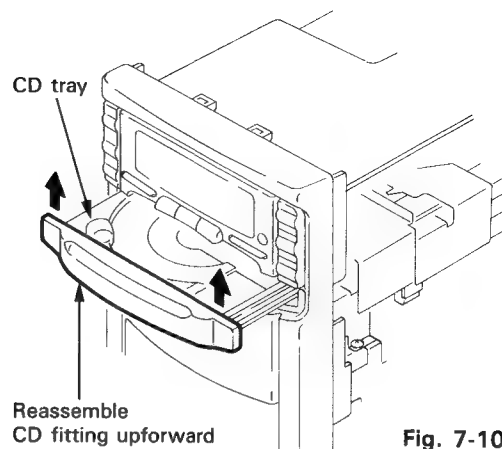

Fig. 7-10
(Refer to Figs. 7-10 ~ 7-12)
1. After turning on the power supply, press the CD tray [OPEN/CLOSE] button and draw out the CD tray. Next, pull out the power cord from the receptacle, and remove the CD fitting while pushing it in the direction of arrow. Subsequent to plug the power cord into the receptacle, press the CD tray [OPEN/CLOSE] button and return the CD tray. Then, turn off the power supply and pull out the power cord from the receptacle (Refer to Fig. 7-10).